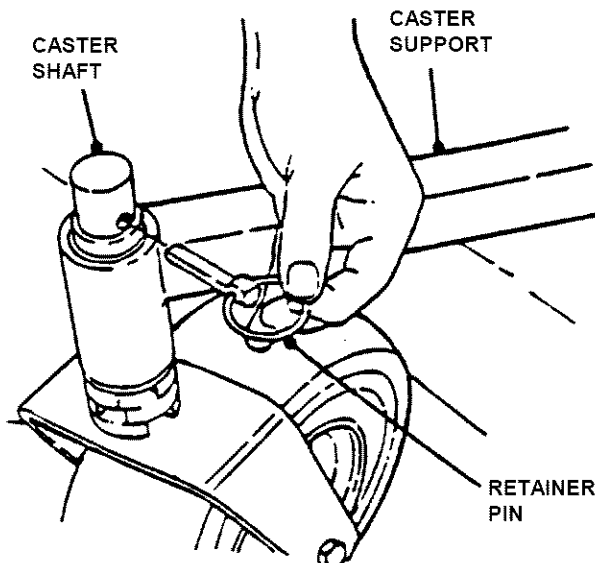

FIGURE 3.12
1. Remove Retainer Pin from Caster Shaft. See Figure 3.12.